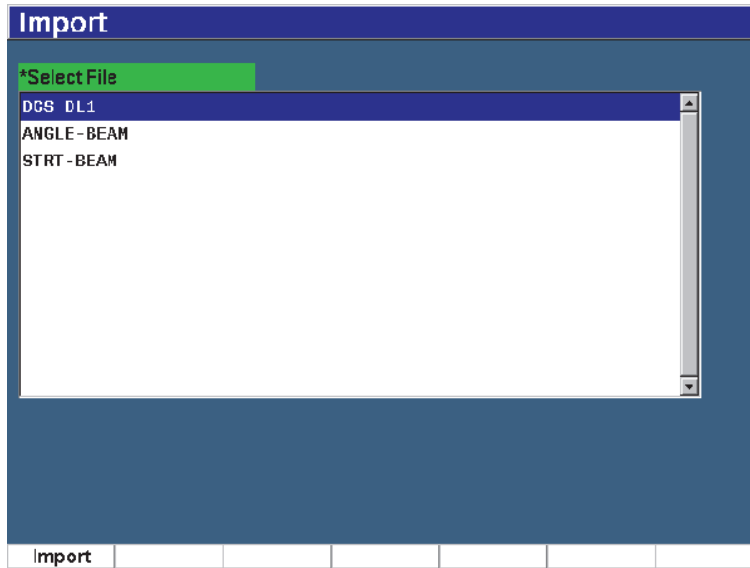

Figure 10-21 Import (memo) page
1. Press **Import Memo**, (P7 key) to display the **Import** page (see Figure 10-21 on page 225).